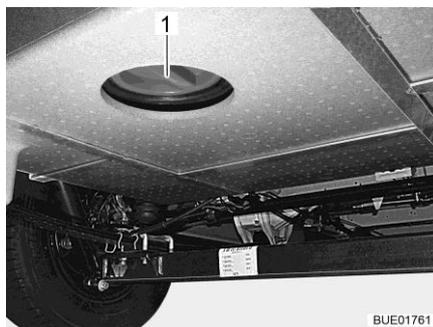

Fig. 185 Cleaning opening (waste water tank)
- Open the cleaning opening (Fig. 185,1) on the waste water tank and the drain cock.